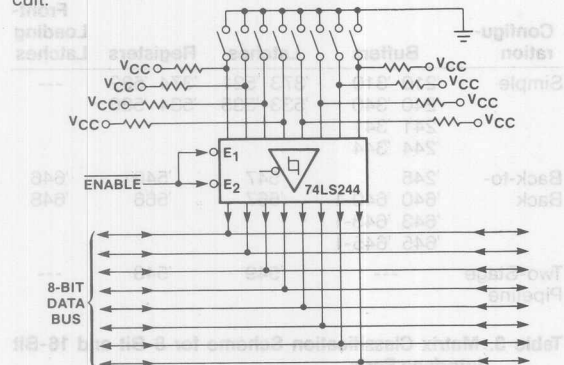

Figure 7. Switch-Setting Readin Circuit
**Reading a switch setting** to establish an externally-defined system parameter, such as a device address, is a mundane but essential task in many microprocessor-based systems. Figure 7 illustrates how a group of eight switches may conveniently be read using a byte-wide buffer such as the 'LS244. Since the switches must be electrically isolated from the bus, the 'LS244's three-state outputs are disabled by control signals originated by the microprocessor until the time comes to read in the switch settings. Because the 'LS244 can supply up to 24 milliamps of  $I_{OL}$  to drive the bus, this simple scheme can be utilized even on heavily-loaded system data buses.